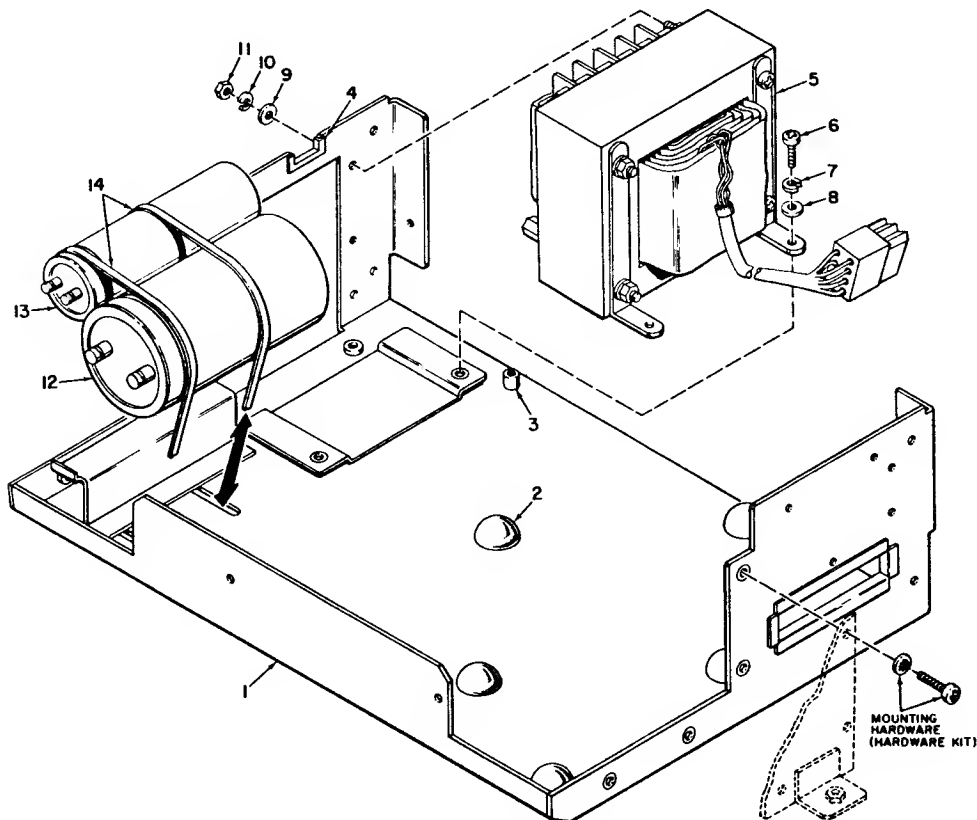

Figure 3-8H. ELECTRONIC MODULE ASSEMBLY
3.16 ELECTRONIC MODULE ASSEMBLY (Figure 3-8H)